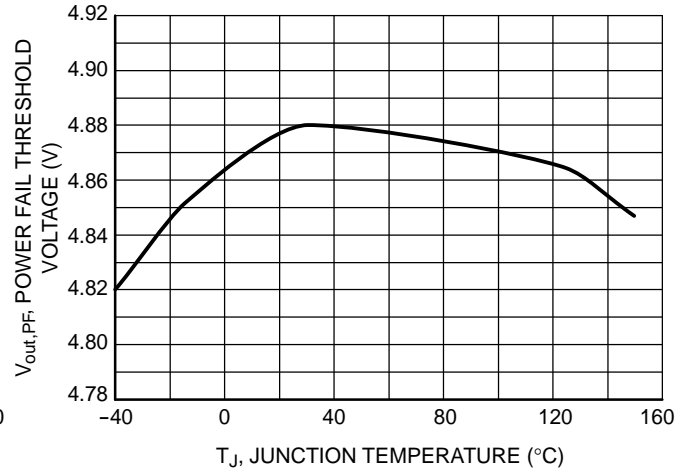

Figure 11. Power Fail Threshold Voltage vs. Junction Temperature
A Power Fail signal is provided on the Power Fail Output (PF) pin to provide feedback to the microprocessor of an out of regulation condition. The power fail threshold vs. Junction Temperature diagrams for each voltage option are shown in Figures 11 and 19. This is in the form of a logic signal on PF. Output voltage conditions below the Power Fail threshold cause PF to go low. The Power Fail Output (PF) circuitry includes internal pull-up connected to the output (V_{out}) No external pull-up is necessary.